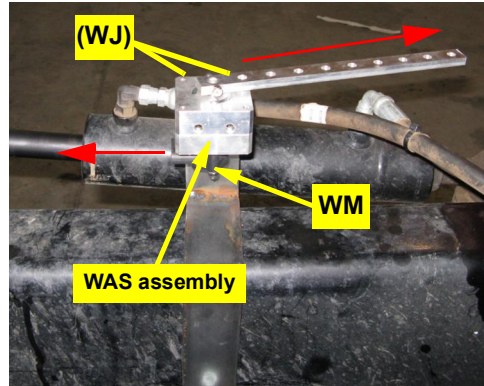

Figure 2b: Installed WAS assembly
- b. Using hardware **WJ** (not visible), attach the prepared WAS assembly to the rear face of bracket **WK**. Mount the assembly with WAS arm **WC** uppermost and facing inward and the wire connector of **WB** facing outward (Figure 2b).